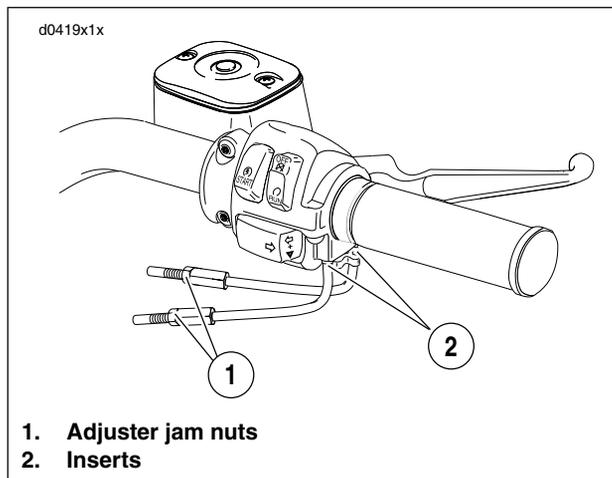

Figure 2-28. Handlebar Throttle Control
1. See Figure 2-28. Loosen cable adjuster jam nuts (1). Screw throttle cable adjuster until it is as short as possible.